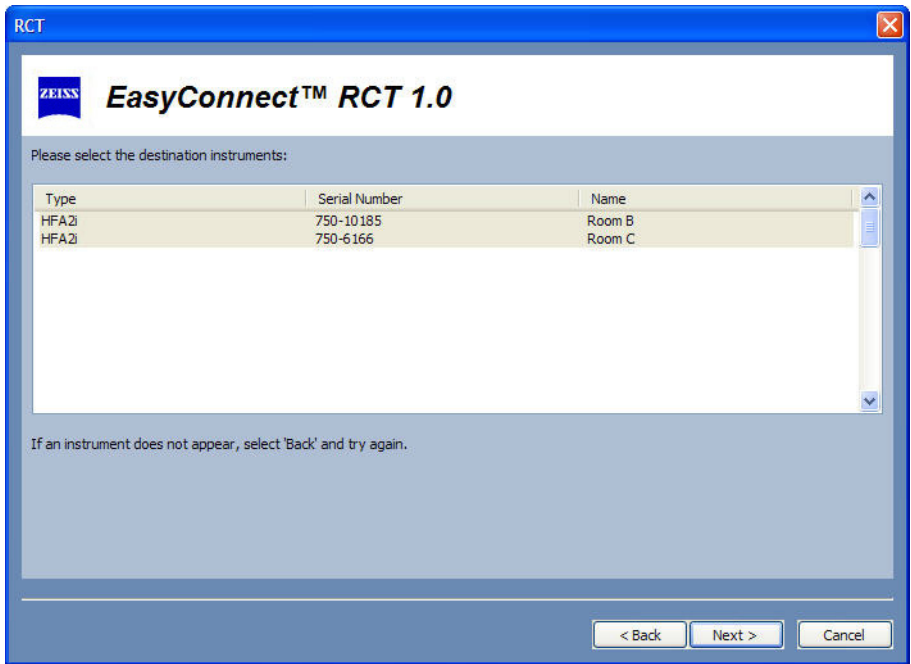

Figure G.18 Select the Destination Networked HFA Instruments
- 3 A list of all other (non-source) networked HFA II-/instruments will be displayed (Figure G.18). All instruments are selected by default. Select one or more destination instruments you want to copy the source configuration to and then select NEXT to continue. CTRL-CLICK to select or deselect multiple instruments.